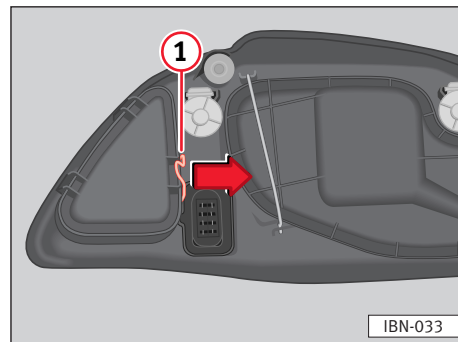

Fig. 150
- Remove retaining rod ⇒ fig. 150 ① in the direction of the arrow and remove cover.